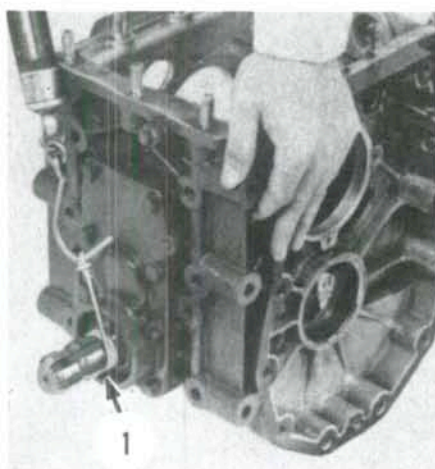

Fig. 240—Use a spring scale and cord to measure pull required to rotate pto output shaft (1) when adjusting bearing preload. Refer to text.
following special instructions. Output shaft bearing preload is adjusted by adding or removing shims (47) between rear bearing (46) and retainer cover (24). Use a spring scale with a cord wrapped around output shaft as shown in Fig. 240 to measure pull required to rotate shaft. Bearing preload is correct when a steady pull of 4-5 Kg (9-11 pounds) is required to turn output shaft.